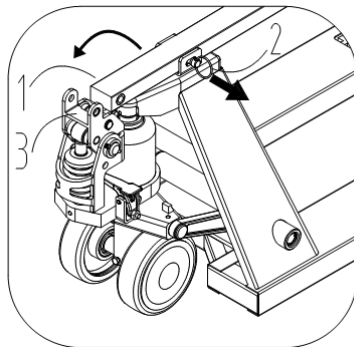

Figure 1
- 3.1 As shown in Figure 1, pull out the pin shaft 2 and rotate the handle 1 to the upright position.